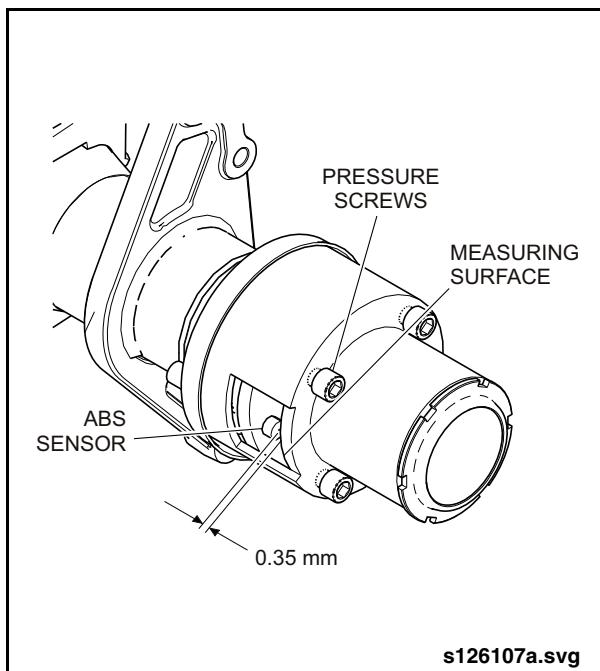

Fig. 2-148: Setting Gap Width
1. Use the Feeler Gauge (Item 22 from special tools list) to check the gap between the ABS sensor and the measuring surface of the assembly sleeve tool. See "Fig. 2-148: Setting Gap Width" on page 129.